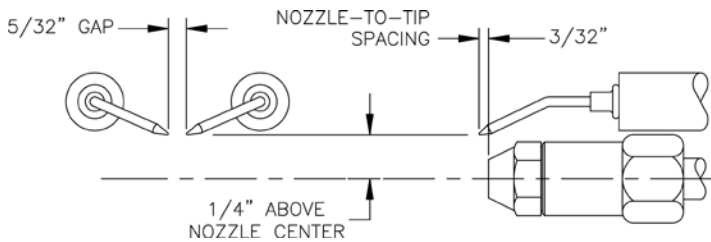

Figure 34: Electrode Tip Gap and Spacing
- a. Verify nozzle size, gun setting and positioning of electrodes. See Figures 34 through 36 and Beckett NX Burner Specifications, Table 19 at the rear of this manual.
- h. Check electrodes to comply with dimensions shown in Figure 34. For adjustment, loosen the electrode clamp screw and slide/rotate electrodes as needed. Securely re-tighten the clamp screw when finished.